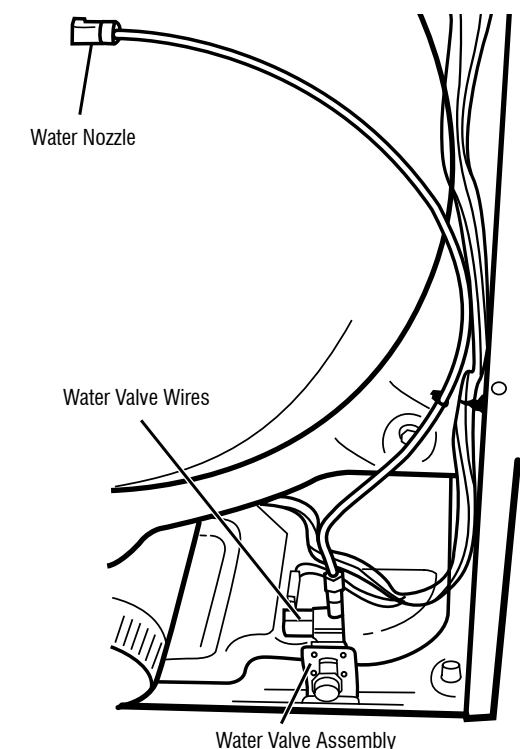

Figure 16 - Water System Components
- Check that the hose and wires are connected to the water valve assembly (see figure 16).